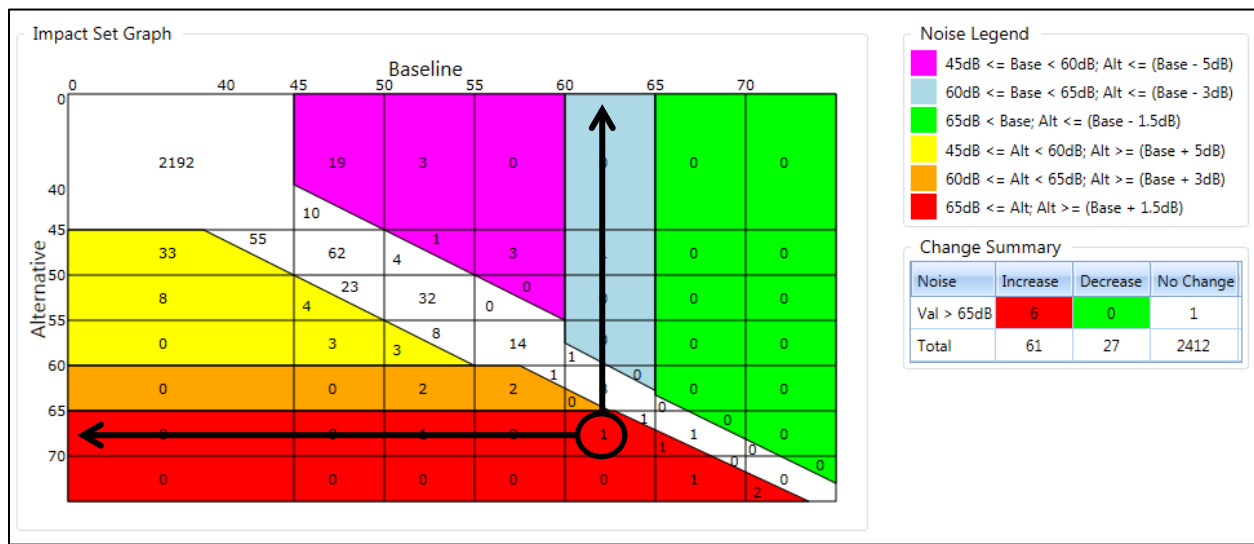

Figure 5-41 Sample Impact Set Graph
- The color coding of warm (red, orange, and yellow) and cool (purple, blue, and green) colors allows easy reference when there has been a reduction or an increase in noise (Figure 5-41).
- Example (Figure 5-41):